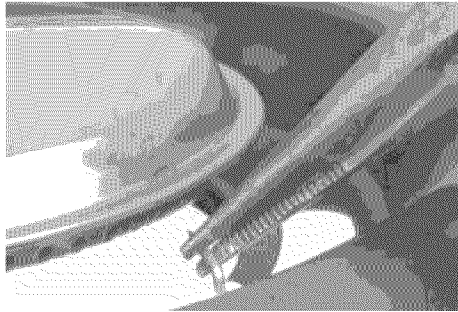

Fig. 11p
12. The side burner is now fully assembled. This step (step 12) is only necessary if you find later that you cannot light the side burner by using the side burner knob. Often, this is caused by poor alignment of the igniter tip with a hole in the side burner. To adjust this alignment, grab the igniter tip with a pair of needlenose pliers as shown in **Fig. 11p**. Using gentle force, move the position of the tip so it is about 1/8" from the bottom of one of the holes in the burner, as shown in **Fig. 11q**.